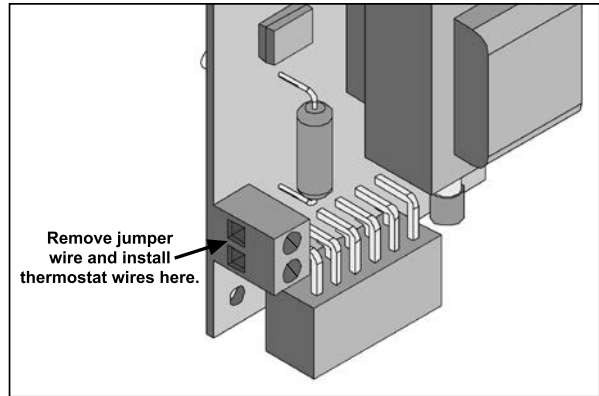

Figure 38: Thermostat wire placement.
1. Install the thermostat by connecting a low voltage millivolt thermostat to the circuit board jumper location shown below. Connect 2 x 18 gauge wires from the connection points on the back of the control board to the thermostat (see figure 38).